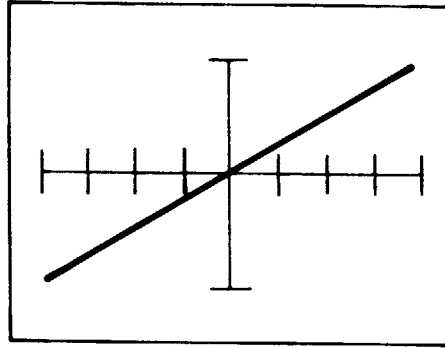

Figure 4-3. Open circuit (Low range)
30. Remove the short from the Test Terminals, and adjust R33 (Low Horizontal Gain) so that the trace looks like Figure 4-3.